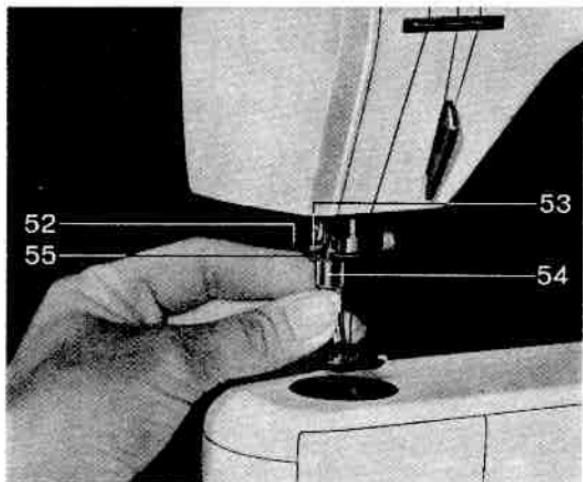

Fig. 22
a) To remove the presser foot (fig. 22)